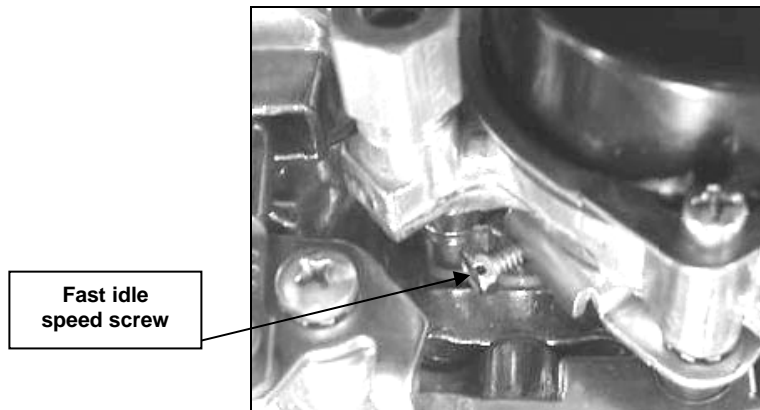

Figure 8
3. If the fast idle RPM is too low or too high for your preferences, TURN THE ENGINE OFF. Advance the throttle to wide-open, exposing the fast idle set screw below the choke housing (See Figure 8).